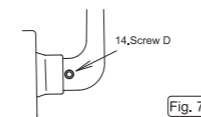

Fig. 7
- Tighten the Screw D attached to the handle using the hexagonal wrench (size:2.5) (Fig.7).